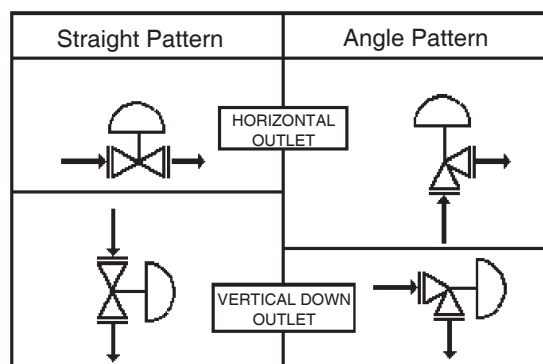

Figure 1: Installation Orientation
1. Standard orientation is with the yoke with position indicator plate and valve body outlet port in same plane. If an alternate arrangement is necessary, loosen yoke nut (8) securing yoke (3) to valve bonnet (2) approximately three revolutions. Rotate actuator assembly (AA) to desired position with respect to body assembly (BA). Re-tighten yoke nut (8) to 85 ft-# (115 N M). **NOTE:** *This procedure can be done in-line.*
2. Valve body must be installed in a horizontal or vertical plane where the outlet connection flow direction is downwards or horizontal. Failure to comply will cause the self-draining of the internal passages to be nullified, allowing CIP cleaning/flushing fluids to be ponded. See Figure 1.